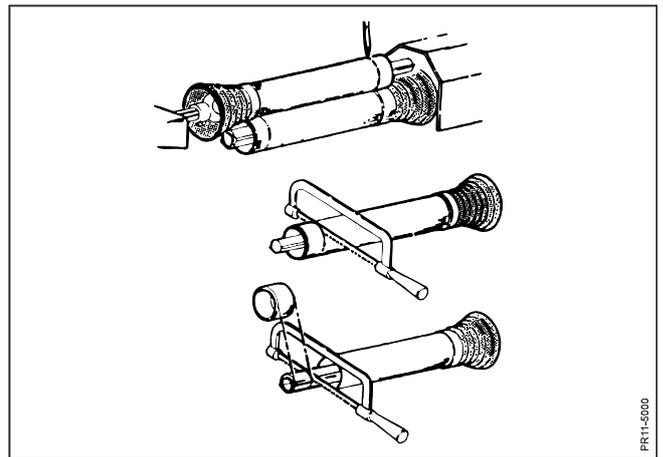

Fig. 4.4
**Fig. 4.4** Secure the PTO parts for PTO and PIC respectively when they are at the same horizontal level and opposite each other. Take the shaft ends and hold them parallel to each other and mark off 30 mm (min.). Shorten all 4 tubes equally. The profile tube ends must be rounded and any burrs must be removed carefully.